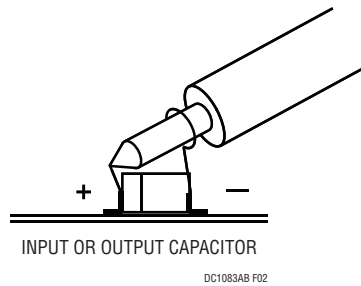

Figure 2. Scope Probe Placements for Measuring Input or Output Ripple
5. To measure input and output ripple, please refer to Figure 2 for proper setup.